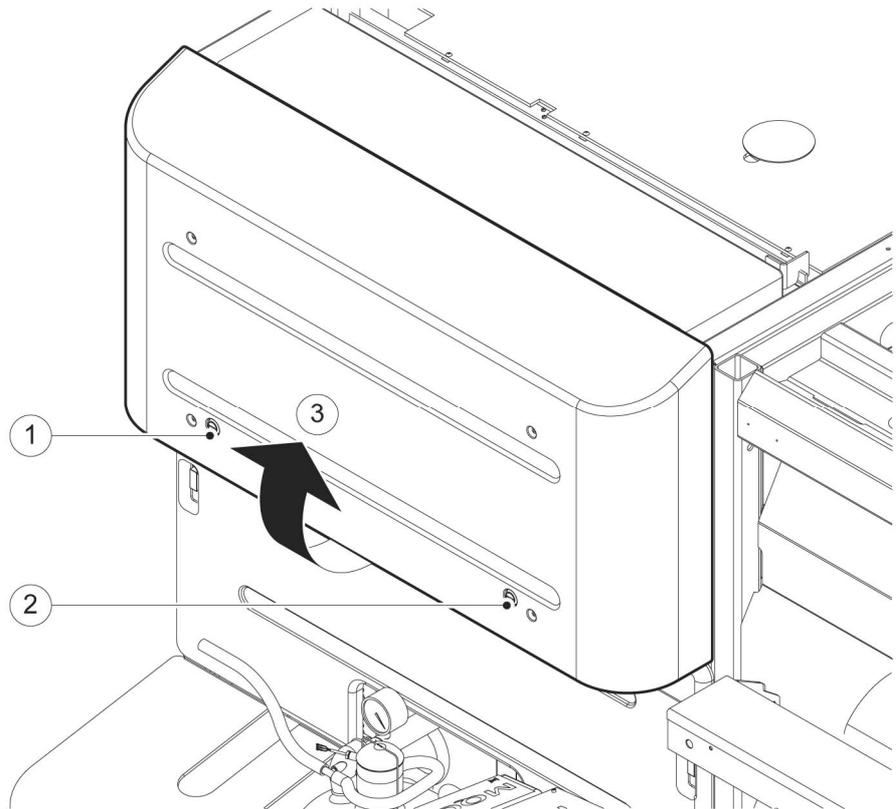

Figure 1: Open the multiple function box
1. Use a screwdriver to turn the locks (fig. 1/1) and (3) 90° counterclockwise to release the cover of the multiple function box.
2. Pull the bottom edge of the cover (2) toward you to open the multiple function box.